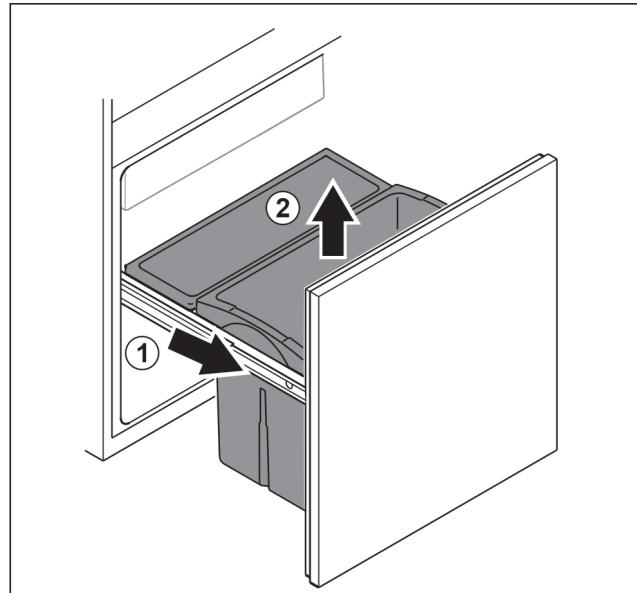

Fig. 30
- ▶ Pull out the trolley all the way Fig. 30 (1).
- ▶ Take out the drawer upwards Fig. 30 (2).